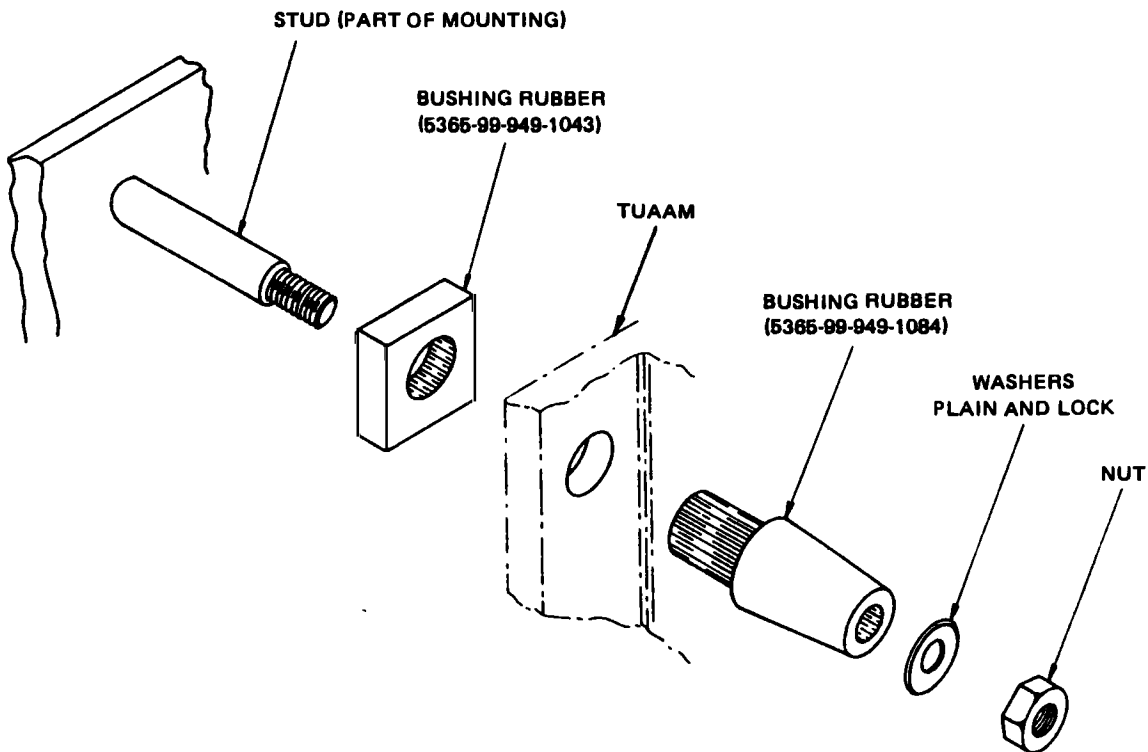

Fig 5 TUAAM bushes
13.3.1 Assemble the rubber bushings (5 and 6) on the TUAAM (12) as detailed in Fig 5.